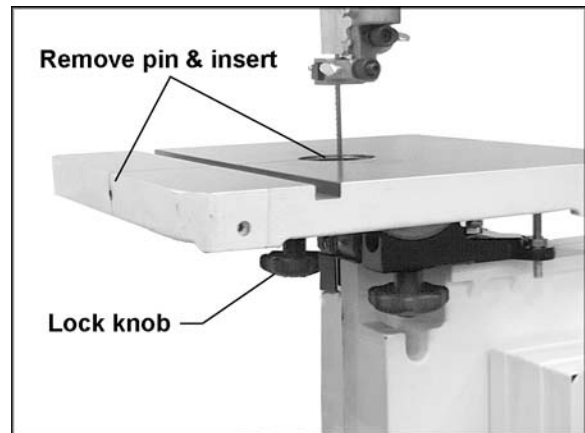

Figure 19
- To mount the table, remove pin and insert from the table (Figure 19).
- Orient the table so the saw blade will pass through the slot in the table and into the center opening. Continue holding up the table, and rotate the table so the two screws that are hanging vertically from below the table will slide into the holes on the trunnion support bracket. Lower the table. The screws should now protrude below the trunnion support bracket - attach lock knobs to the ends of these screws. (Figure 19).